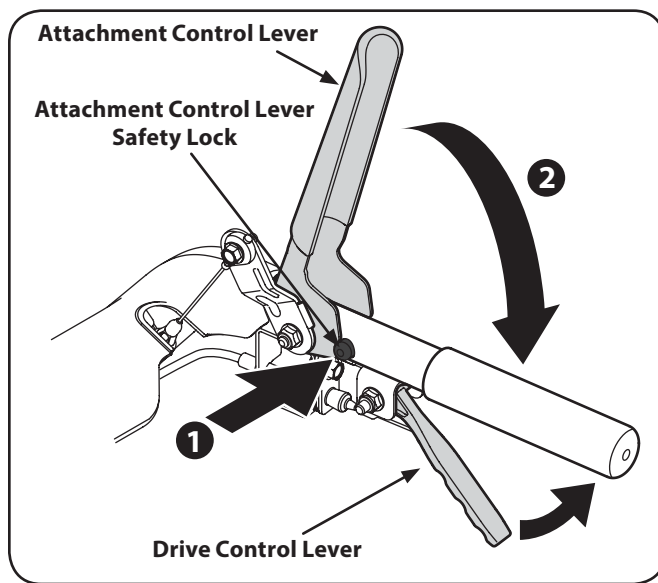

Figure 5-4
1. To engage the augers, push in on the Attachment Control Lever Safety Lock button (1 in Figure 5-4).
2. Squeeze the Attachment Control Lever completely against the upper handle (2). To stop the augers, release handle.